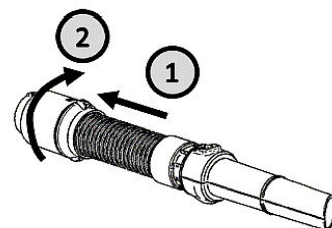

Fig. 7: Connect suction hose
Step 4: Insert the hose into the connection (Fig.7, Pos.1) and turn it to lock (Fig.7, Pos.2). To remove the hose again, turn it in the opposite direction and pull it out.